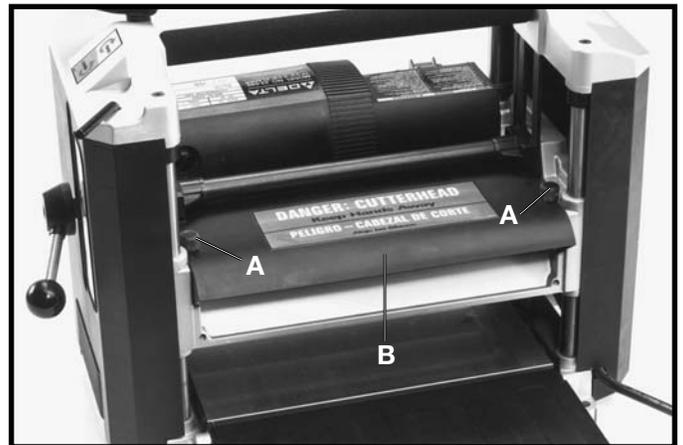

Fig. 27
3. Remove two screws (A) Fig. 27, and remove cutterhead guard (B) by pulling it straight out.